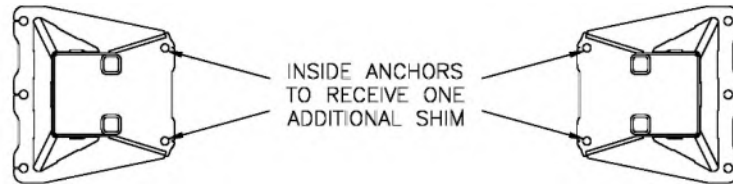

Fig 22 – Front Column Shimming
- 38) After ensuring column is touching lower Slide Block and not the upper Slide Blocks, drill and install anchors per steps 20-25, **See Fig 22**.
contact with column and torque all anchor bolts to 150 foot-pounds, see **Fig 22**.